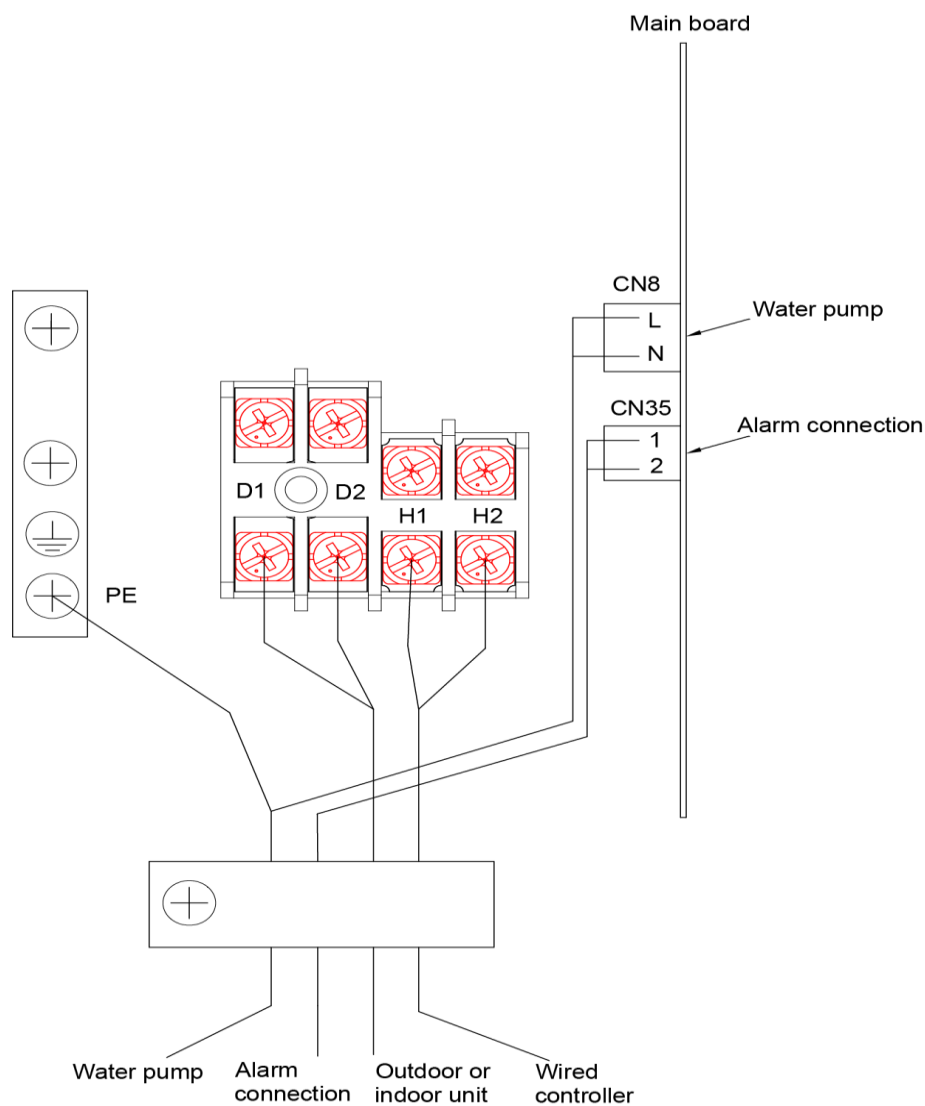

Fig 5.7
- (1) Remove the panel.
- (2) Remove the electric box cover.
- (3) Connect the power cord of external water pump to the positions L and N of terminal CN8 of the main board; connect the alarm wire to the positions 1 and 2 of terminal CN35 (refer to Fig .5.7).
- (4) Take out the wiring clip from the package of accessories. Remove the original wiring clip from the electric box and secure the power cord and alerter wire with the new clip.